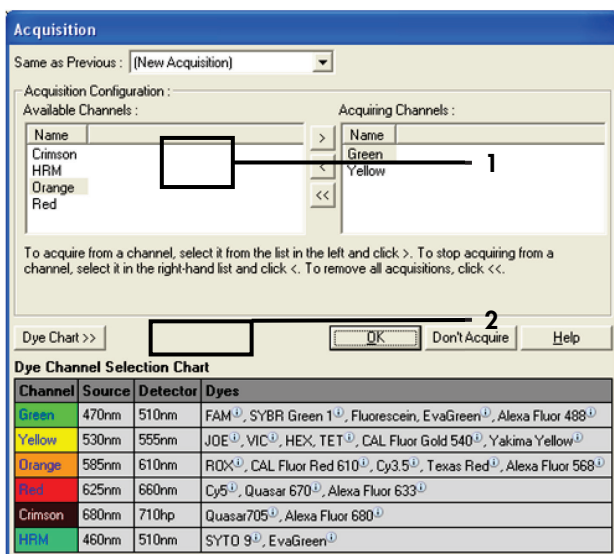

Figure 27. Acquiring at cycling step of 60°C. 1 = Selected channels; 2 = "OK."
10. Select **Green** and **Yellow** as acquiring channels. Click **>** to transfer these channels from the "Available Channels" list to the **Acquiring Channels** section. Click **OK** (Figure 27).